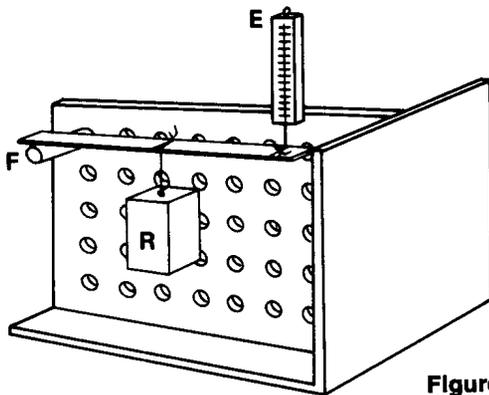

Figure 6-16
2. Set up the pegboard platform. Suspend the block by a thread near the center of a ruler. Support one end of the ruler by a support rod and the other end by a spring scale (Fig. 6-16). Be careful not to let the ruler slide off the support rod.
7. Refer to the Fig. 6-16.